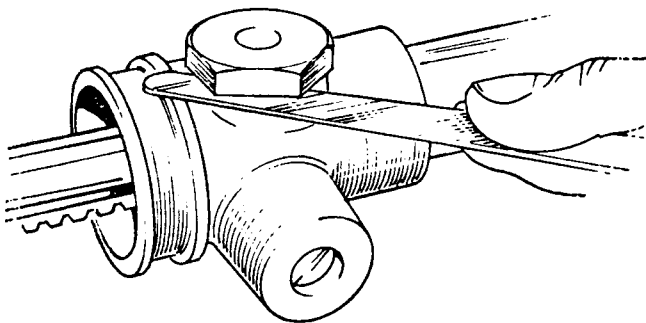

Fig. 14. MEASURING CAP NUT HEAD/
- a. Fit the plunger and cap nut to the pinion housing. Tighten the nut to eliminate all end float and, using feeler gauges, measure the clearance between the nut and housing as shown on Fig.14. Remove the cap nut and plunger.